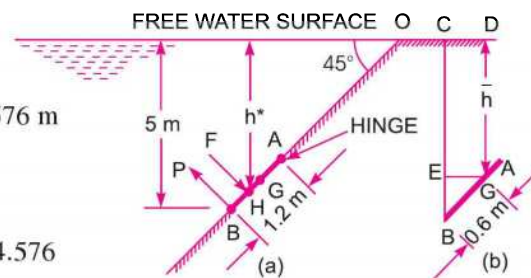

Fig. 3.23
**Problem 3.18** An inclined rectangular sluice gate  $AB$ , 1.2 m by 5 m size as shown in Fig. 3.23 is installed to control the discharge of water. The end  $A$  is hinged. Determine the force normal to the gate applied at  $B$  to open it.
But from Fig. 3.23 (a),  $\frac{h^*}{OH} = \sin 45^\circ$